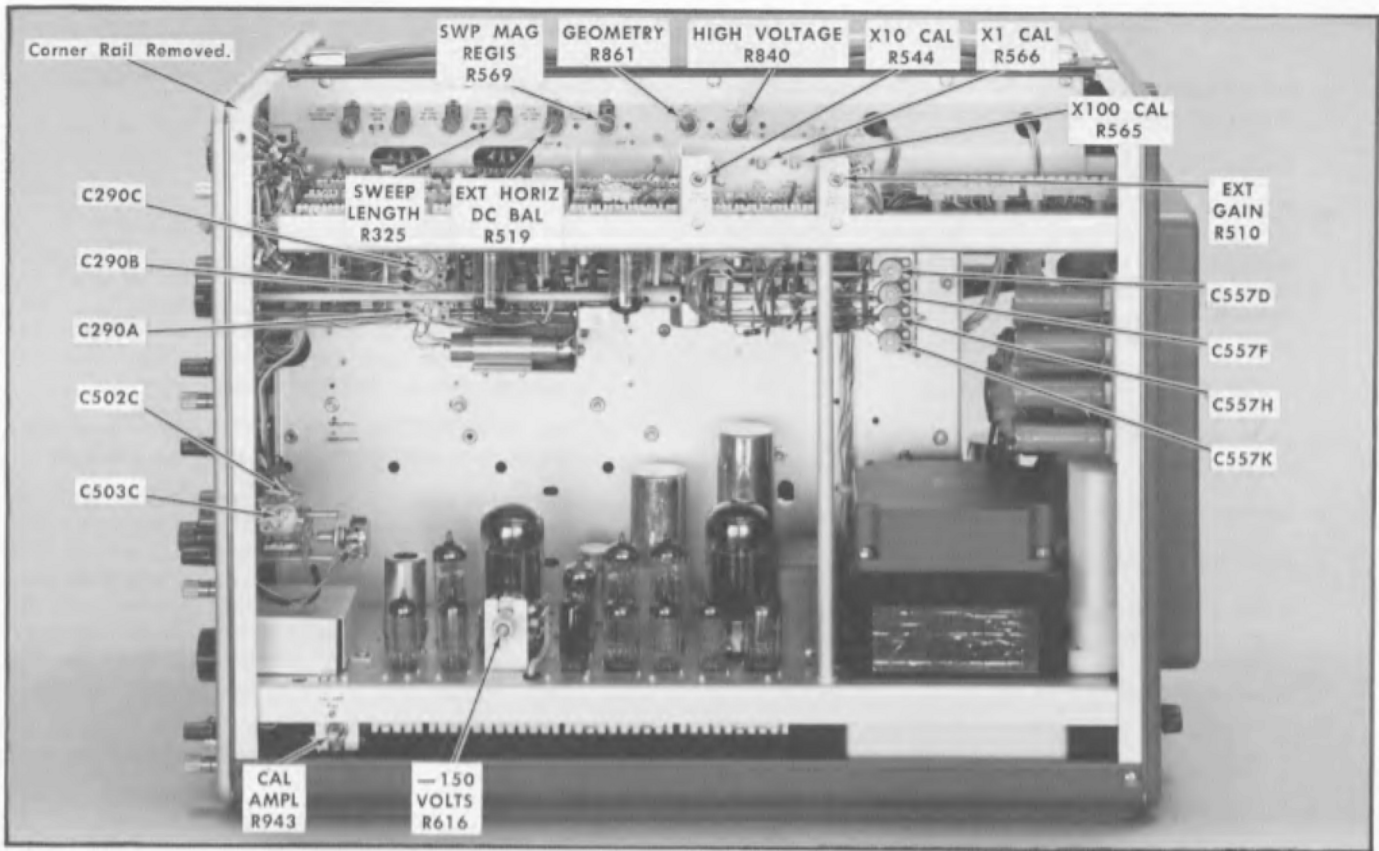

Fig. 5-2. Calibration adjustment locations (right side view).
- d. If necessary, adjust the —150 VOLTS R616 control [see Fig. 5-2] so all power supply voltages are within tolerance.
- b. Adjust the HIGH VOLTAGE control R840 (see Fig. 5-2) for a  $-1850$  voltmeter indication.
- a. Connect a single binding post adapter (item 9) to the oscilloscope CAL OUT connector.
- d. Adjust the CAL AMPL control R943 (see Fig. 5-2) for a voltmeter reading of exactly 100 volts.
- g. Adjust the GEOMETRY control R861 (see Fig. 5-2) for straightest possible vertical marker-lines running parallel to the 0-cm and 10-cm graticule lines. Note the amount of bowing.